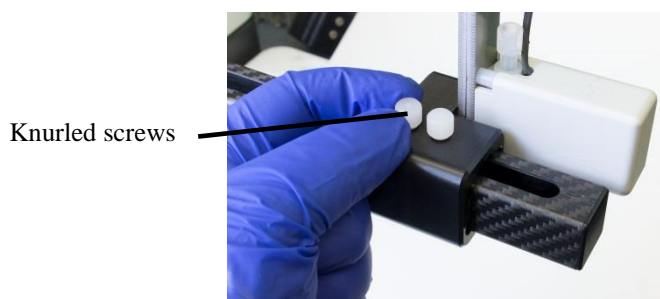

Fig. 5: Diverter valve assembly
1. Place the diverter valve assembly on the fraction collector arm and mount it with two knurled finger-tight screws. No tools are required to fasten the screws. Fig. 5 shows the assembly attached.